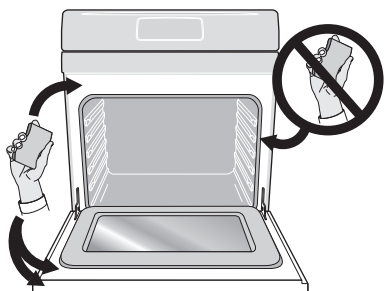

Figure 12: Clean around the oven door gasket
- Do not clean the oven door gasket (Figure 12). The woven material of the oven door gasket is essential for a good seal. Care should be taken not to rub, damage, or remove the gasket.
- Clean any soil from the oven frame, the door liner outside the oven door gasket, and the small area at the front center of the oven bottom. These areas heat sufficiently to burn soil on. Clean with soap and water. These areas are shown in white (Figure 12).